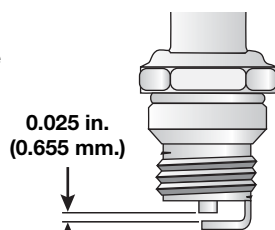

Fig. 36
3. Replace cracked, fouled or dirty spark plug. Set the air gap at 0.025 in. (0.655 mm.) using a feeler gauge (Fig. 36).